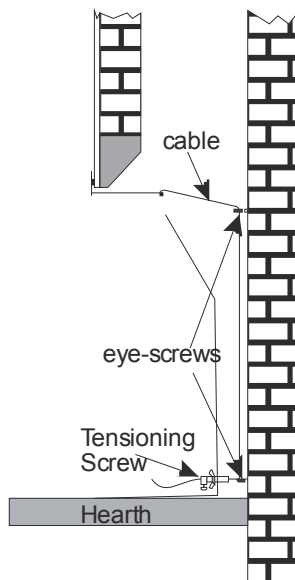

Figure 74
1. With the firebox placed close to the fireplace opening feed the two cables through the matching eye screws (left cable through left hand set of eyelets and the same for right hand cable) and then back into the holes at the bottom rear of the firebox (see **Figure 74**).